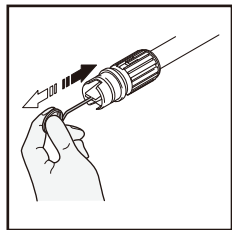

Fig. 17
- Using the nozzle tip cleaner provided (or an unfolded paper clip), insert the wire into the nozzle hole and move back and forth until debris is dislodged (Fig. 17). Back flush water through the nozzles using garden hose and highest pressure available (either standard water nozzle or use your thumb over the nozzle to create water pressure for back flush).